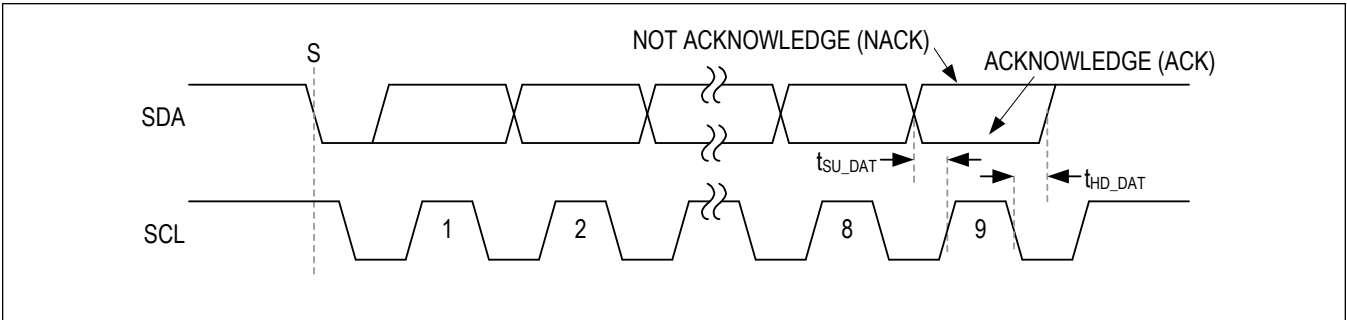

Figure 29. Acknowledge Bit
Both the I²C bus master and slave devices generate acknowledge bits when receiving data. The acknowledge bit is the last bit of each nine bit data packet. To generate an acknowledge (A), the receiving device must pull SDA low before the rising edge of the acknowledge-related clock pulse (ninth pulse) and keep it low during the high period of the clock pulse. See Figure 29. To generate a not-acknowledge (nA), the receiving device allows SDA to be pulled high before the rising edge of the acknowledge-related clock pulse and leaves it high during the high period of the clock pulse.